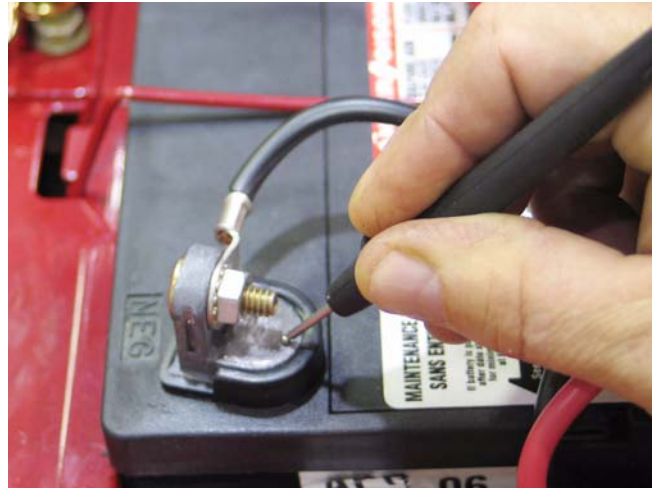

Figure 7.55
- This text will address the negative side to begin with. Bad grounds are responsible for as many electrical failures as the positive side of the system, yet the ground side is frequently neglected by technicians. See Figure 7.55.